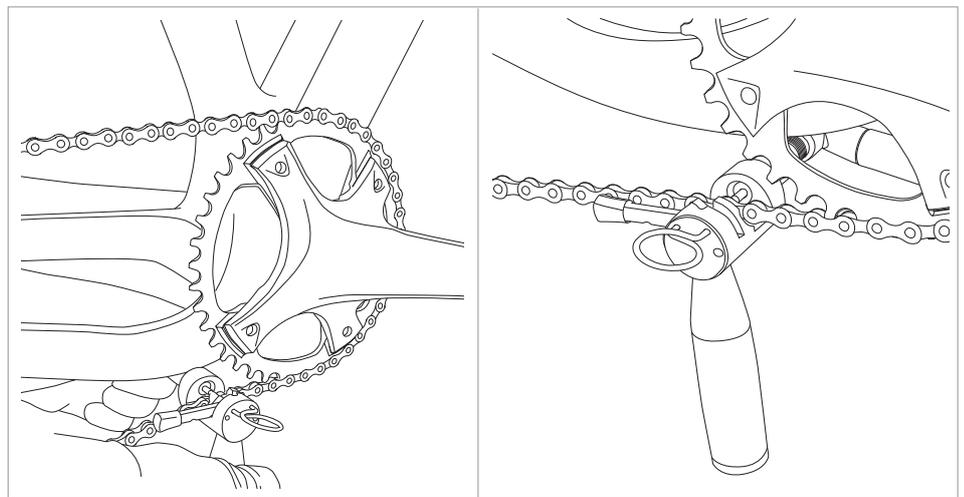

Fig.8
- Position the tool **UT-CN400** as shown in **Fig. 8**.